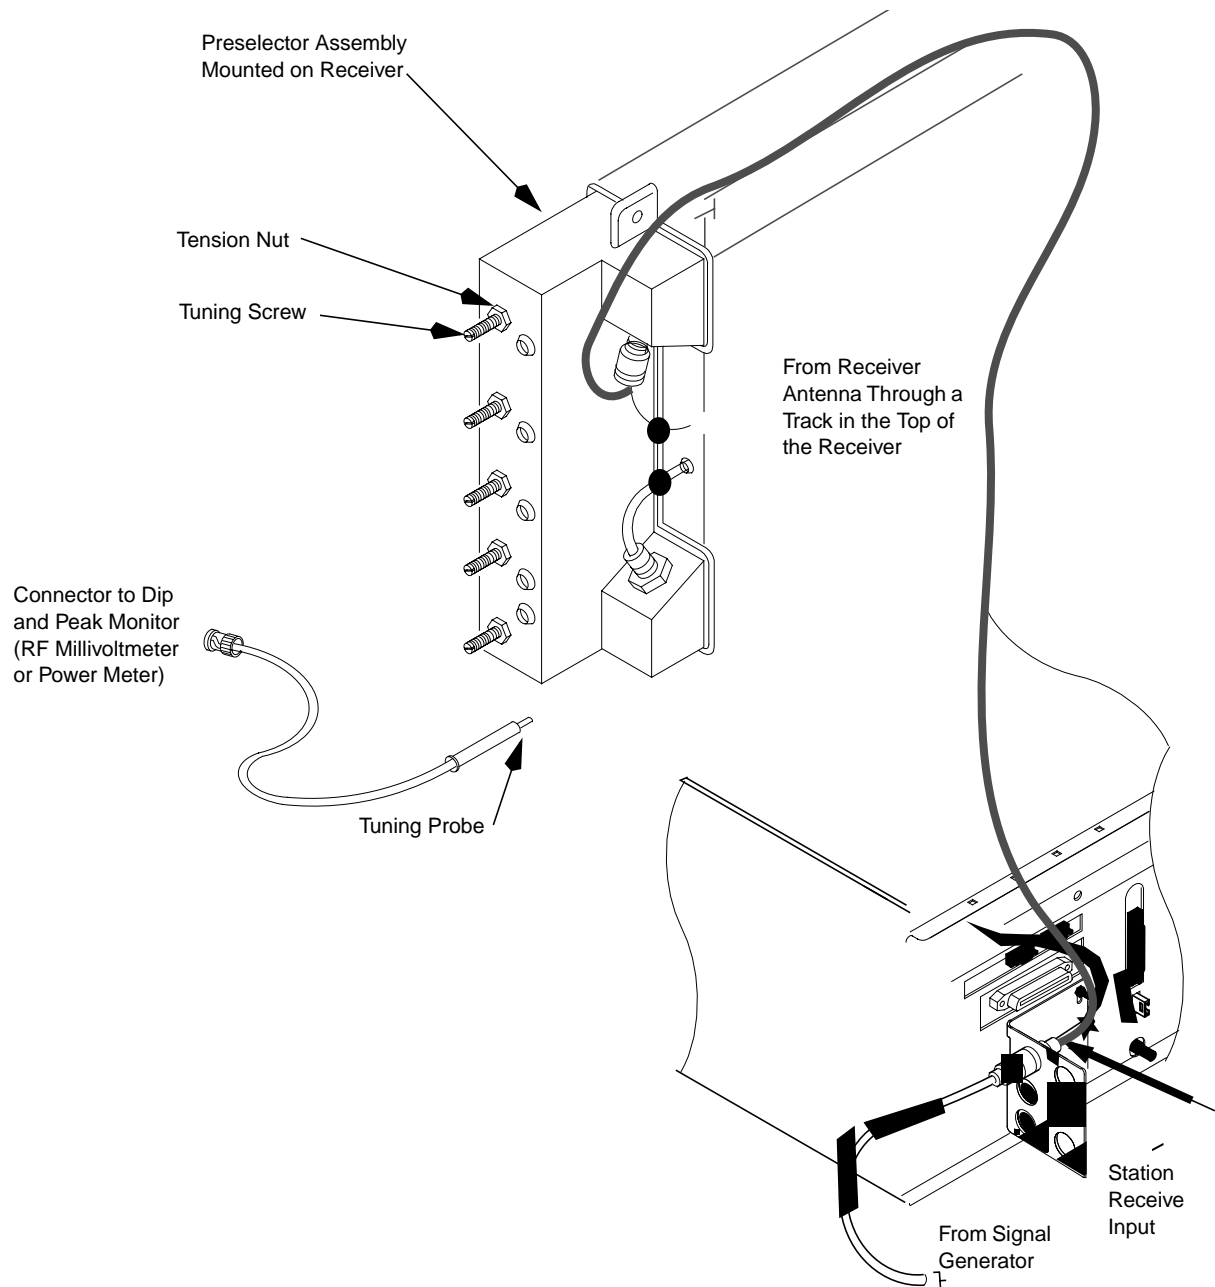

Figure D-8: Test Equipment Setup (UHF Has Three Screws)
5. Connect the test equipment (see Figure D-8).
4. Connect the test equipment (see Figure D-8).